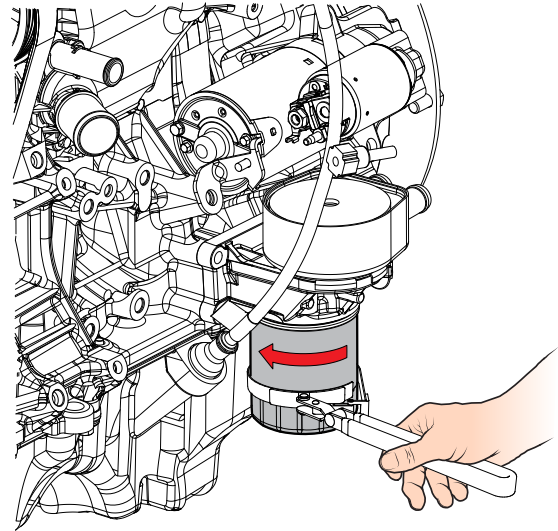

Figure 61. Oil Filter Removal
- Using a filter wrench (Figure 61), turn the oil filter counterclockwise to remove.